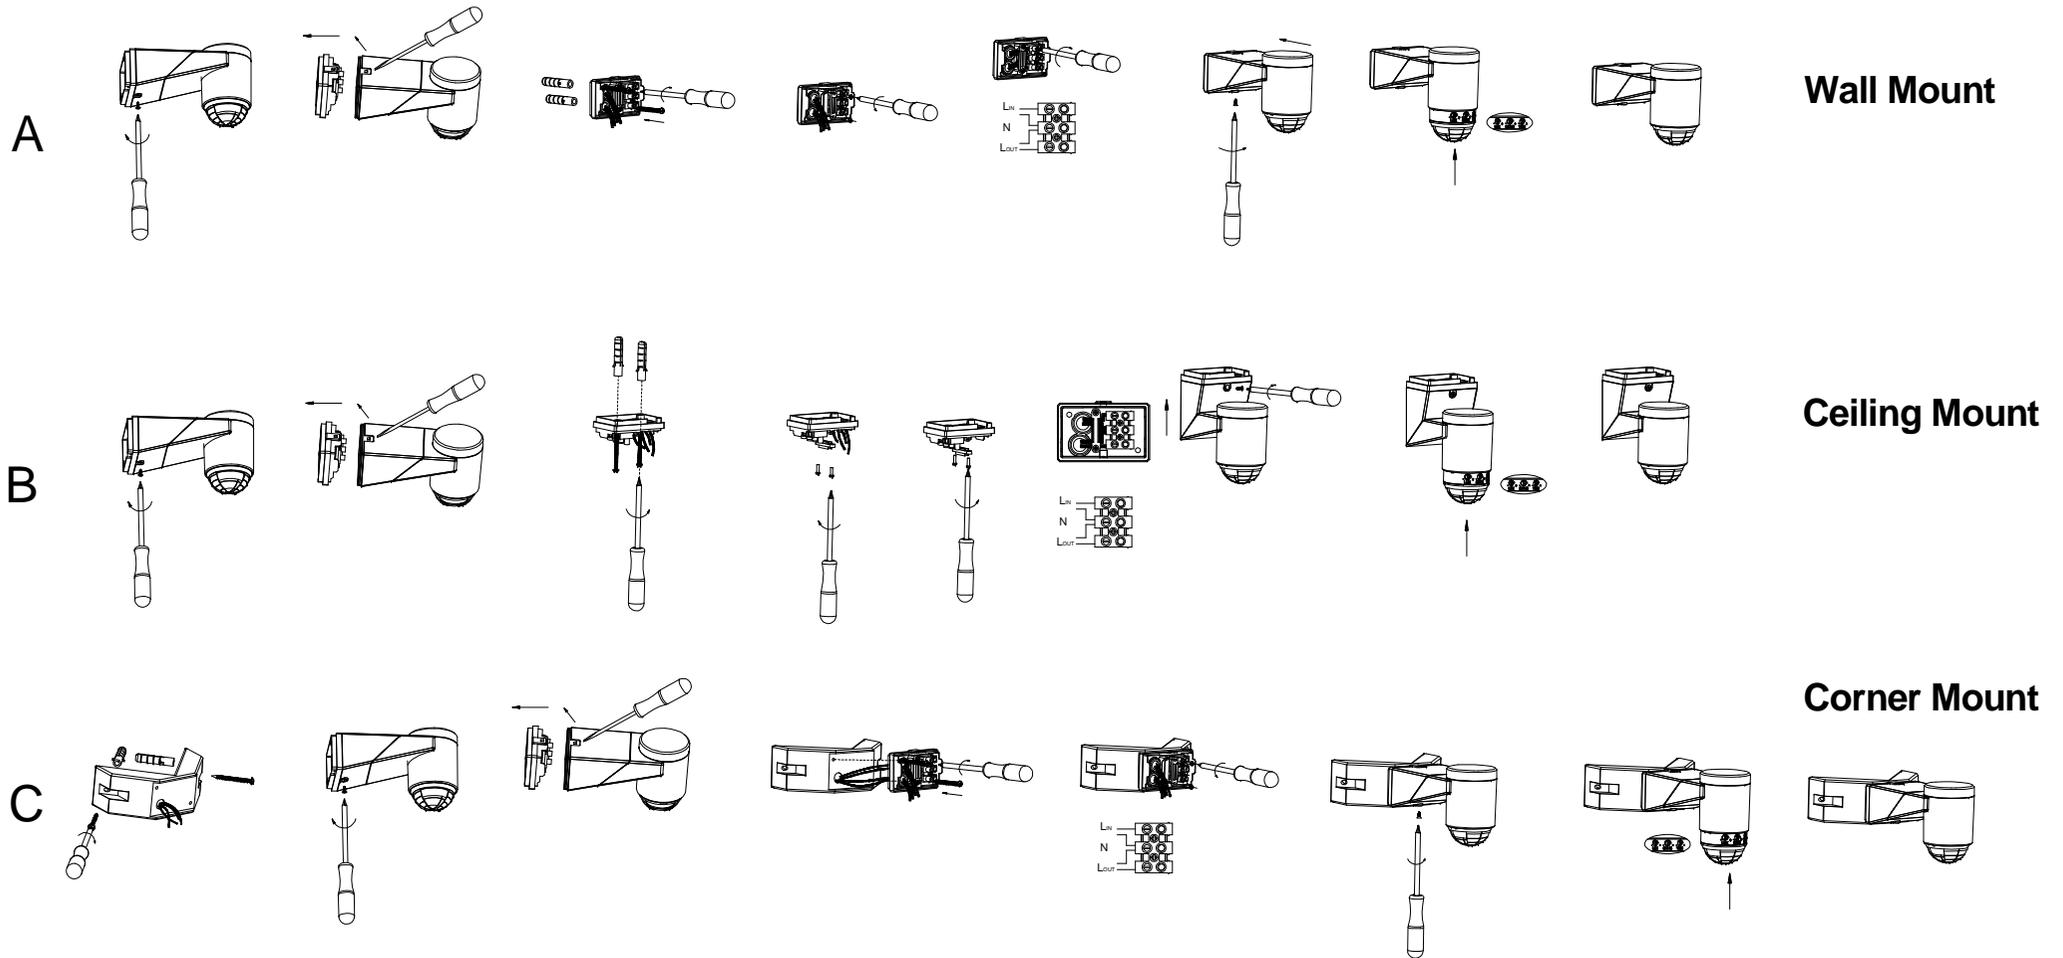

Fig.2 MOUNTING
Before commencing any electrical work, ensure the mains supply is isolated by switching off and removing the relevant fuse. (See Figure 2 A ,B and C)
C. Corner Mounting(Figure 2 C)